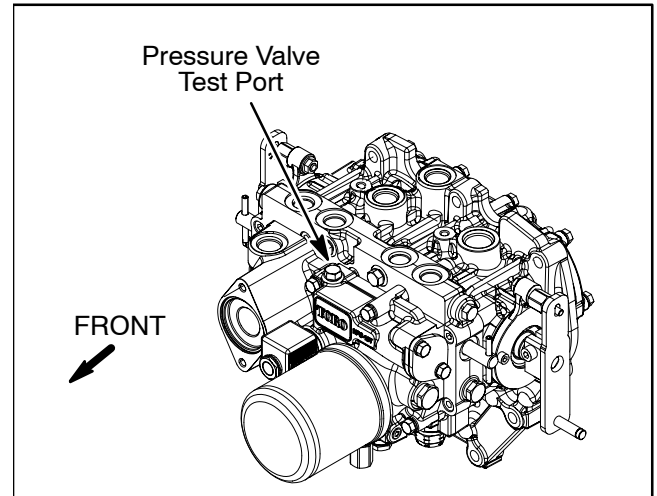

Figure 20
4. Thoroughly clean transmission area surrounding pressure valve test port (Fig. 20).
5. Remove plug from pressure valve test port (Fig. 20). Connect hydraulic pressure gauge (1000 PSI / 70 bar) with an attached hydraulic hose to the test port.